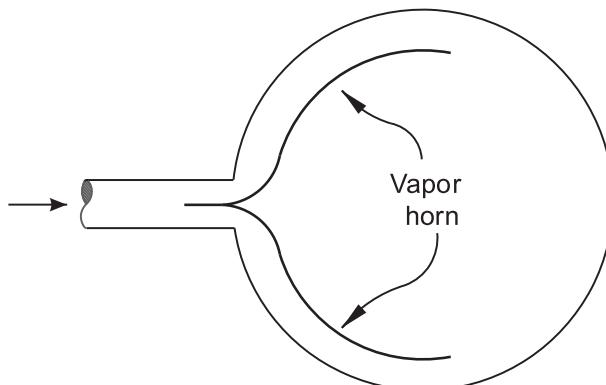

FIG. 5.1 Vapor horn promotes better phase separation.
3. “ C ” between 0.15 and 0.20=Addition of a tangential baffle or vapor horn, in addition to items in #2, above is needed (Fig. 5.1).